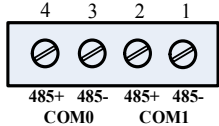

Figure 3 RS485 communication port
**Note:** Figure 3 is communication port of H2U-XP, and COM0 port is H2U's COM0.
- (JP0 disconnected): The PLC side is RS485 and the PC side is RS485. They are connected through terminal, as shown in Figure 3. The connecting cable is optional.
COM1/COM2 hardware is standard RS485, which is easy to connect with other devices via on-site wiring by users. For the COM1/COM2 definition, see Figure 3. **Note:** Both ports are supported only half-duplex communication mode. COM3 port of H2U-XP can be available through extension card.